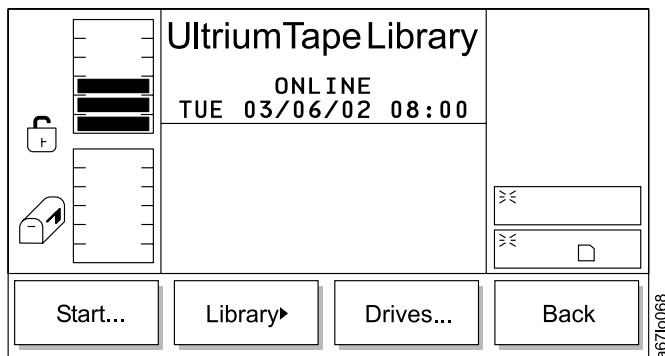

Figure 159. Service Menu
Use the Service Menu for routines that are associated with maintaining the library. Select **Service** from the Main Menu's alternate screen by pressing the button below the **Service** softkey (see Figure 77 on page 89). The Service Menu displays (see Figure 159).
- If **Cancel** is selected, the Service Menu displays (see Figure 159 on page 132).
If **OK** is selected from the Normal Service Dialog, the Service Menu displays (see Figure 159 on page 132).
- If **Back** is selected, the Service Menu displays (see Figure 159 on page 132).